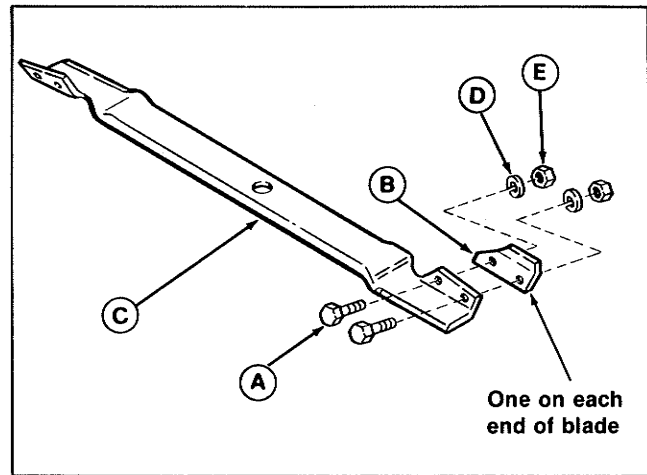

Figure 1.
3. Install the lifts on blade on discharge side as shown in figure 1. Then, remove the wood blocks.